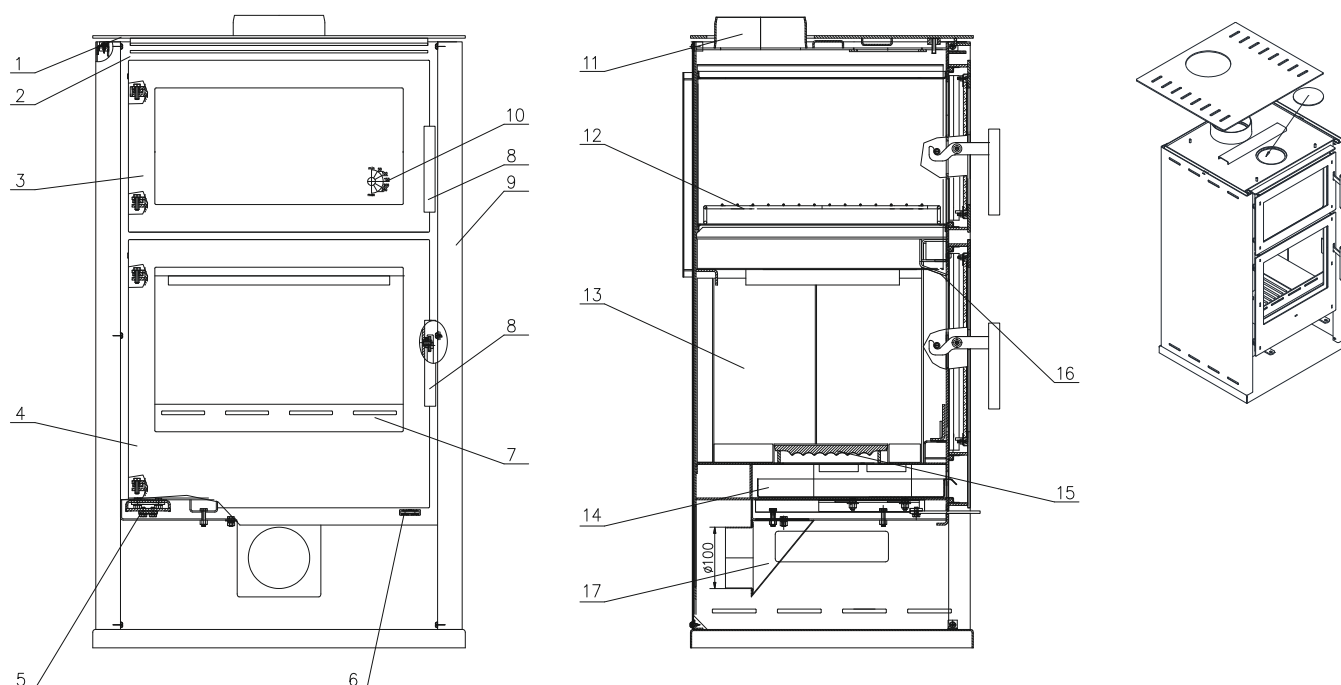
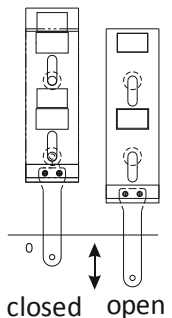

Fig. 1.
Fig.4
Your room heater is constructed with a built-in oven intended only for warming up dishes. The temperature in the oven depends on the burning intensity and the amount of loaded wood. A thermometer is installed on the oven door (Fig.1, Pos.3), which facilitates temperature control.
Under the top plate (pos.1, Fig.1) there is a revision hole, which is closed with a removable cover. This hole is for cleaning the surface above the muffle. It is advisable to remove the accumulated soot at least 2 times during the heating season.
The combustion process is regulated by the supplied primary and secondary air via the regulators (Fig.1, Fig. 4).